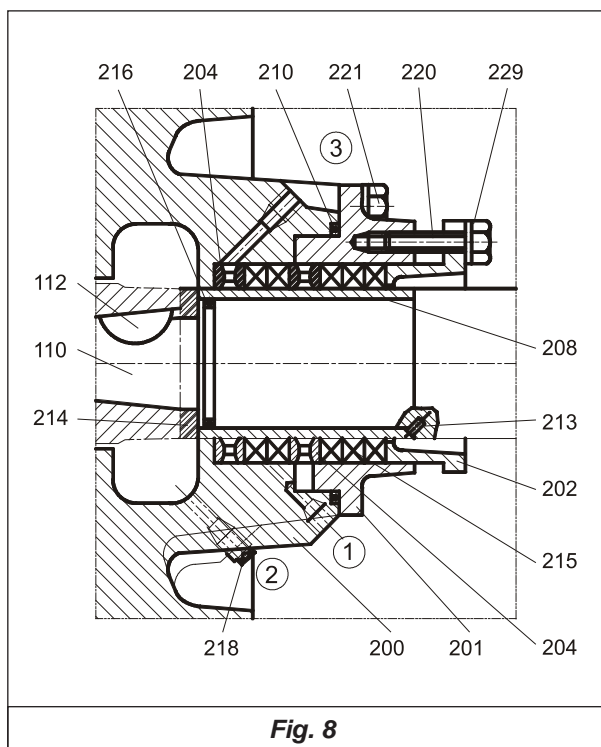

Fig. 8
abrasive liquids or liquids with a crystallize tendency are pumped. This connection can be done replacing the last packing ring (205) by another lantern ring (204) Fig. 8.